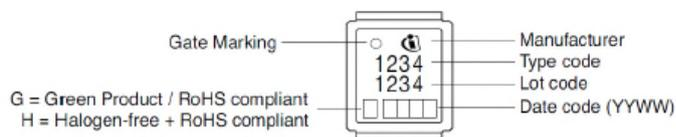

Figure 3 Outline Boardpads and apertures CanPAK MX, dimensions in mm
2) See figure 3 for more detailed information